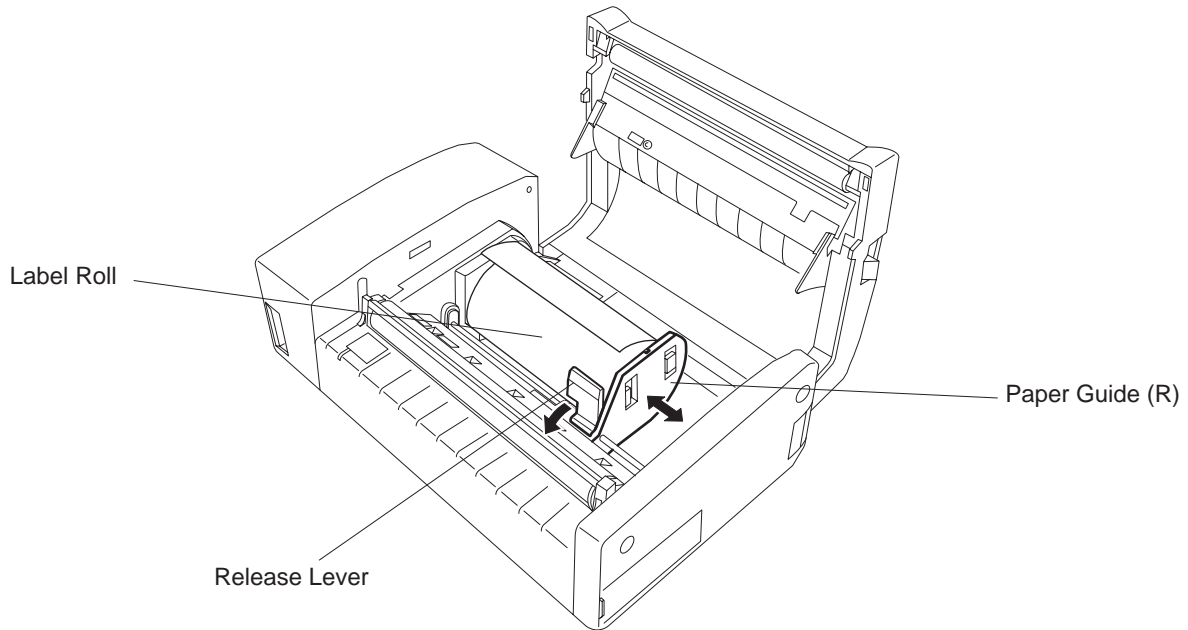

Fig. 7-3
5. Load the liner backed label roll as Fig.7-3 shows.
6. Slide the paper guide (R) to accommodate the label roll width, and then push the release lever downward to fix the paper guide (R).